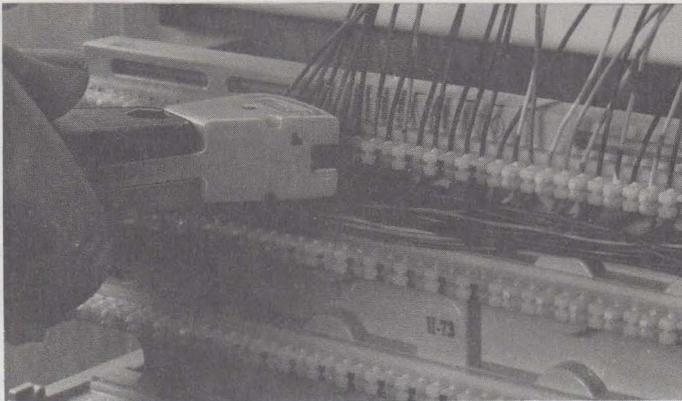

Fig. 19—Cutting Excess Wire
3.15 Cut off excess wire using the 4-pair cutoff tool (Fig. 19) or the cutoff side of the 788J1 tool. Conductors should be perpendicular to index strip for ease in cutting.